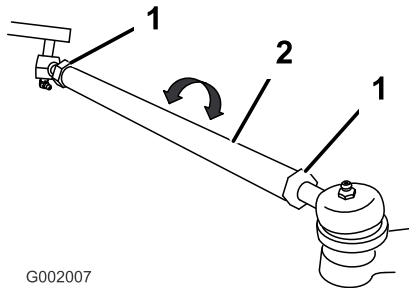

Figure 62
5. If the measurement does not fall within the specified range, loosen the jam nuts at both ends of the tie rods (Figure 62).